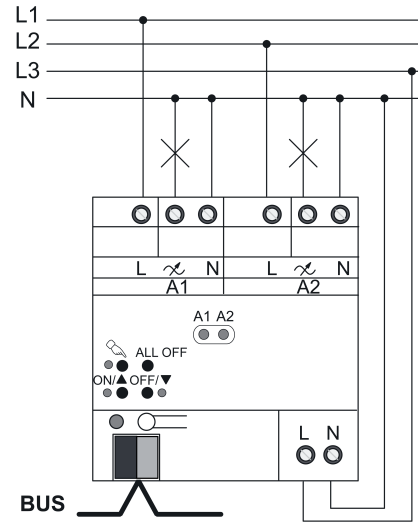

Figure 2: Connection example, lamp loads
- o Connect the lamp loads according to the connection example (figure 2).